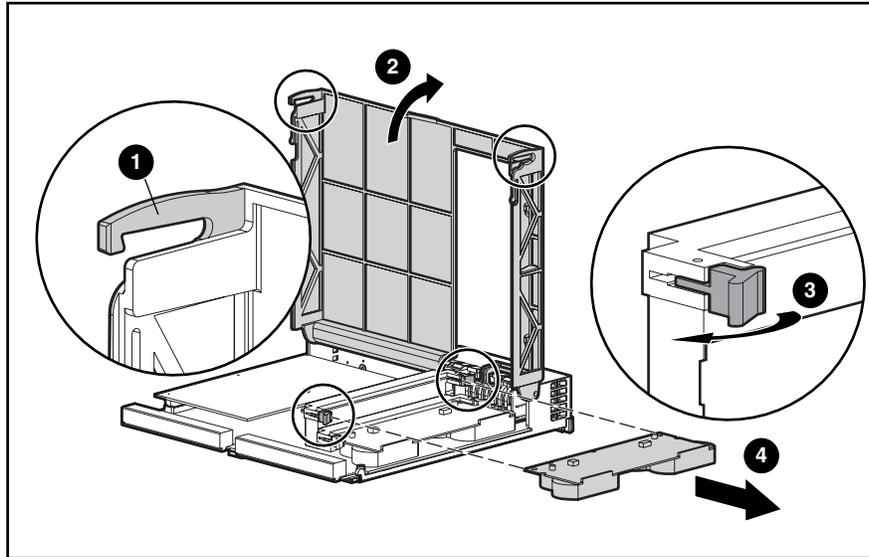

Figure 6: Removing the cache module
4. As illustrated in Figure 6, unlatch the controller cover clips **1** on the rear of the controller and then raise the cover **2**.
Note: The controller in Figure 6 has been rotated so the side and rear of the controller are visible.